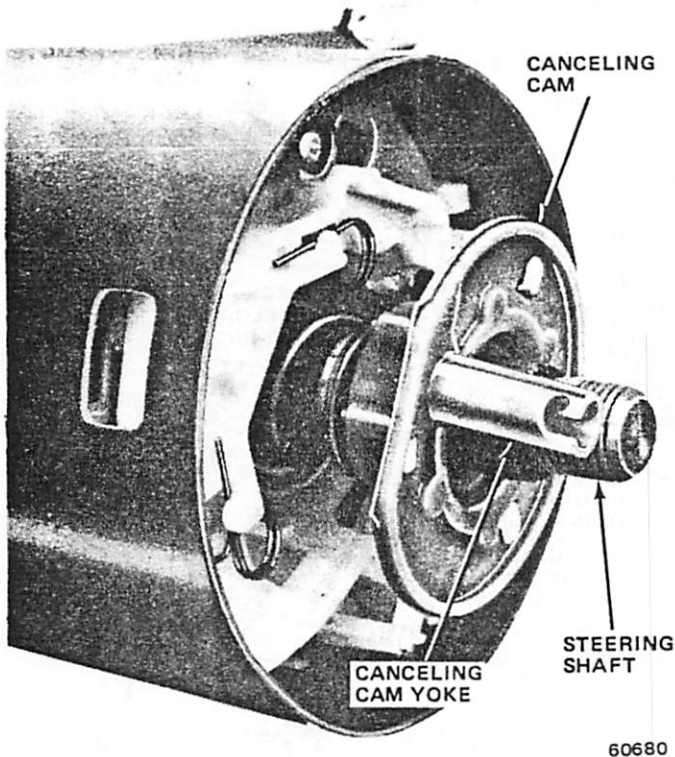

Fig. 2J-24 Positioning Canceling Cam
(23) Place turn signal switch in neutral position and install hazard warning switch knob.
(24) Position lock plate on steering shaft.
(25) Install replacement steering shaft snap ring on sleeve of Compressor Tool J-23653 and install tool on steering shaft (fig. 2J-25).
**CAUTION:** Identify the steering shaft nut thread type before using the compressor tool. If the shaft has American threads, use the compressor tool as is. However, if the shaft has metric threads (fig. 2J-2), replace the compressor tool forcing screw with Metric Forcing Screw J-23653-4 before using the tool.
(26) Compress lock plate and install snap ring in steering shaft groove (fig. 2J-25).
(27) Remove compressor tool. Be sure snap ring is fully seated before removing tool.
(28) Install lock plate cover.
(29) Remove Support Fixture Tool J-23074, if installed.
(30) Install column mounting bracket. Tighten bracket attaching bolts to 20 foot-pounds (27 N•m) torque.